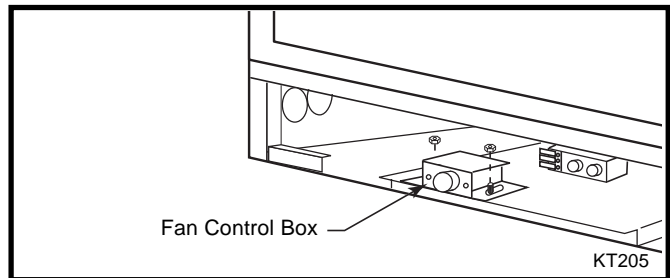

Fig. 31 Remove fan control box.
- Remove the Fan Speed Control Box. (Fig. 31)